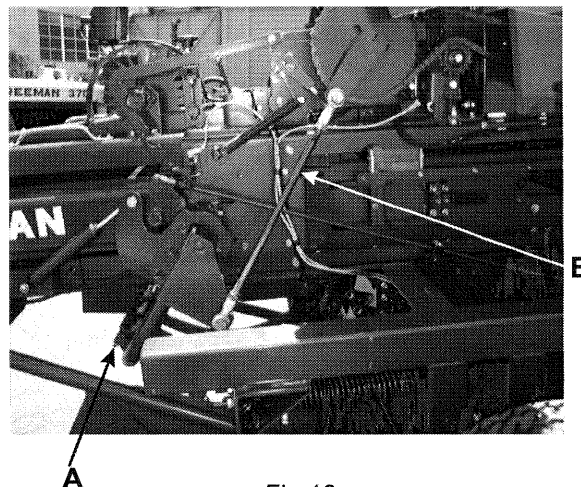

Fig.18
2. The needles should clear the twine disc cleaner by 1/8" (3 mm). To increase the distance between the needle and the twine disc cleaner, loosen the front and tighten the rear needle anchor bolts "A," Fig. 18. To decrease the clearance reverse the procedure.
4. Adjust needle height by loosening the lock nuts on the needle yoke drive rods "B," *Fig.18*. Turn the rod to the right or left for desired setting. Be sure both needle yoke rods are adjusted for equal load at top dead center.